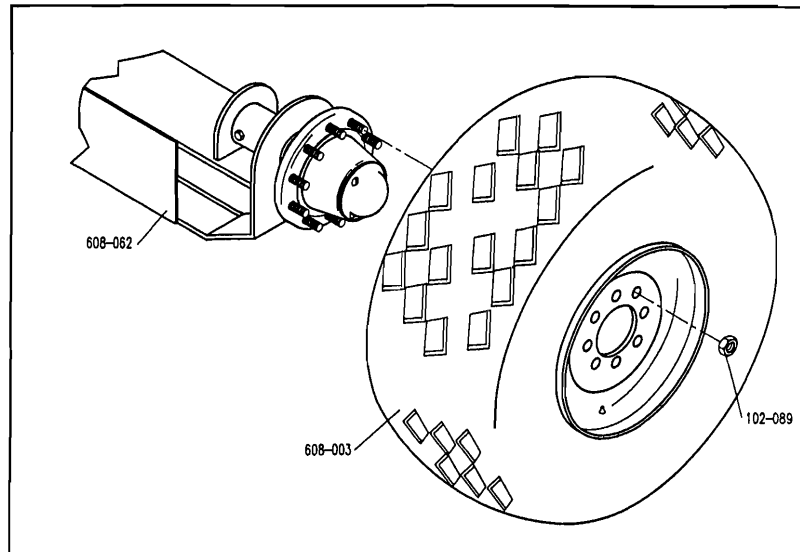
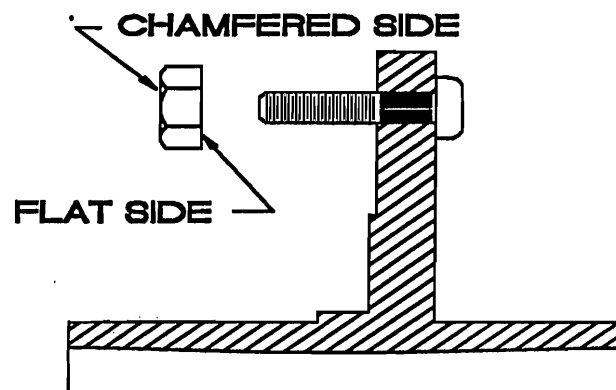

FIGURE 2: HUB ASSEMBLY
FIGURE 3: INSTALLING NUTS ON HUB STUDS
3. Mount wheels onto axle hubs. Figure 2 shows the hub and wheel. See Figure 3 for proper placement of nuts. Torque to 450 lb-ft. Check torque after first hour of operation and weekly thereafter.